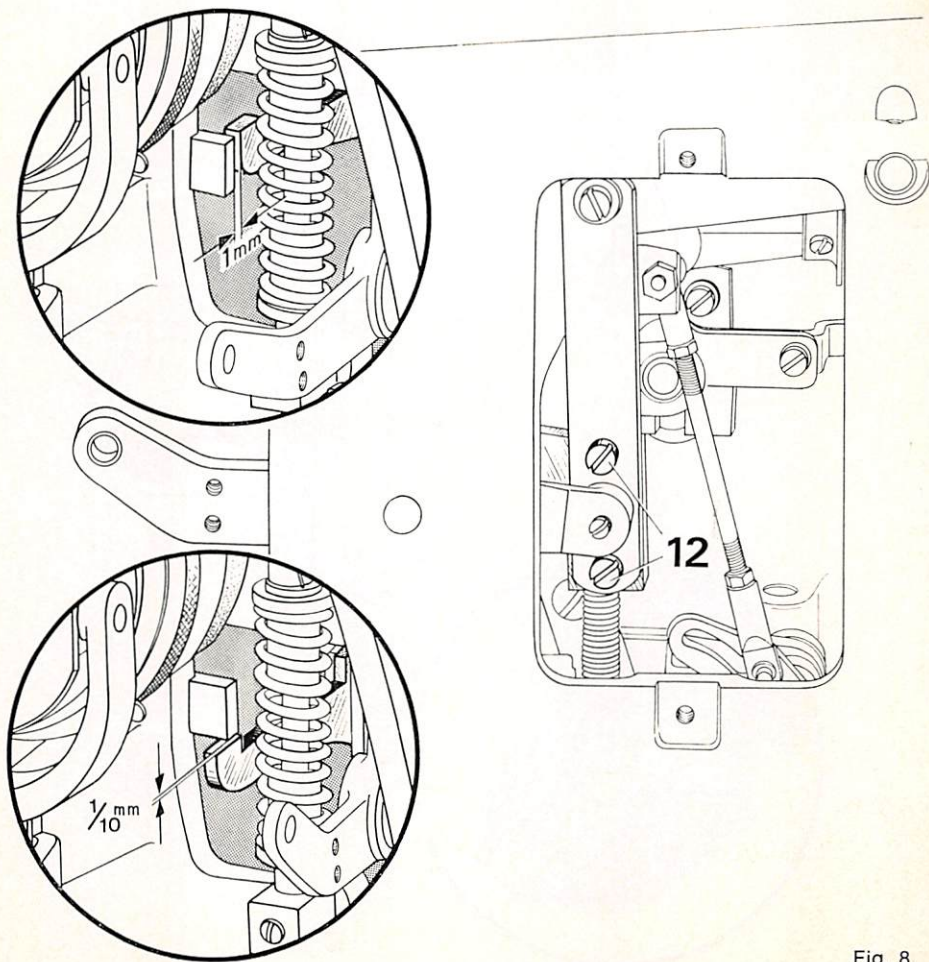

Fig. 8
**8. Adjusting the locking lever (Fig. 8)**